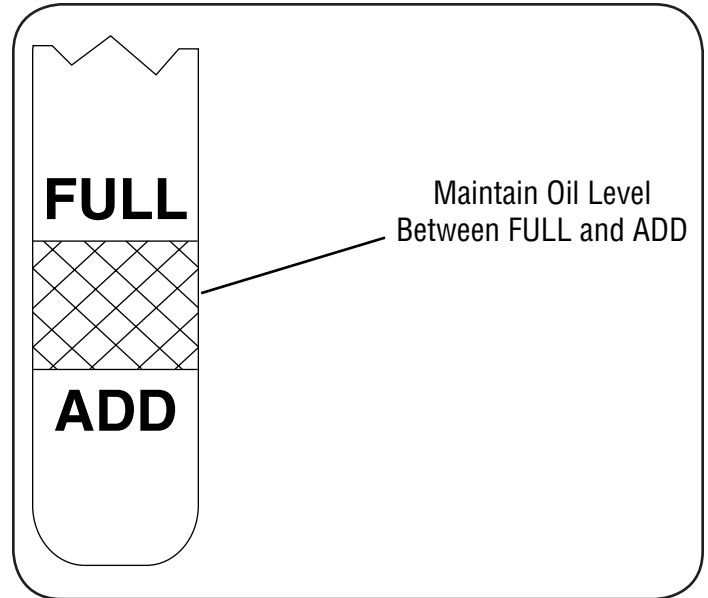

Figure 12
4. Unscrew and remove oil fill cap from oil filler tube. Note oil level. If oil reading on dipstick is below "ADD" mark, slowly add oil to reach "FULL" level. See Figure 12.